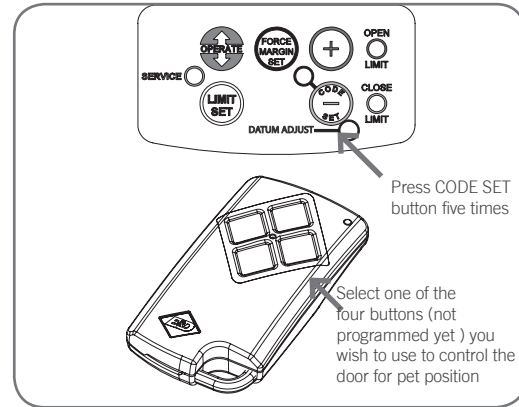

Fig. 36
- Press the same transmitter button again. The CODE SET LED will illuminate for one second and then go out, and the courtesy light will also switch off. This indicates the code has been stored. This indicates the code has been stored (**Fig. 36**).